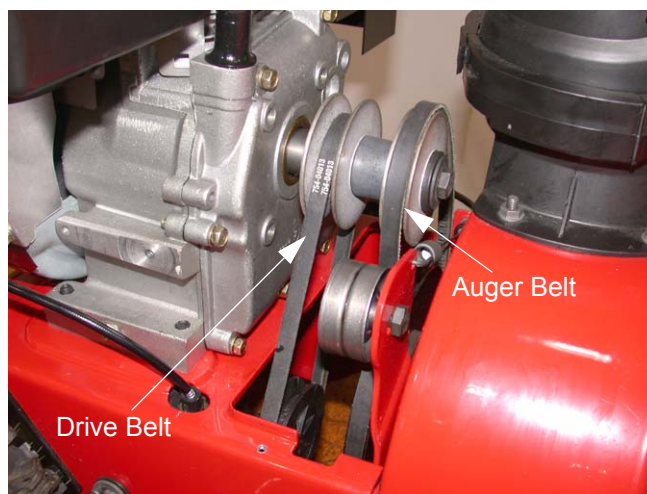

Figure 4.3
- 4.3. Slip the front auger belt off the engine pulley pushing it down between the idler bracket and the engine pulley. See Figure 4.3.